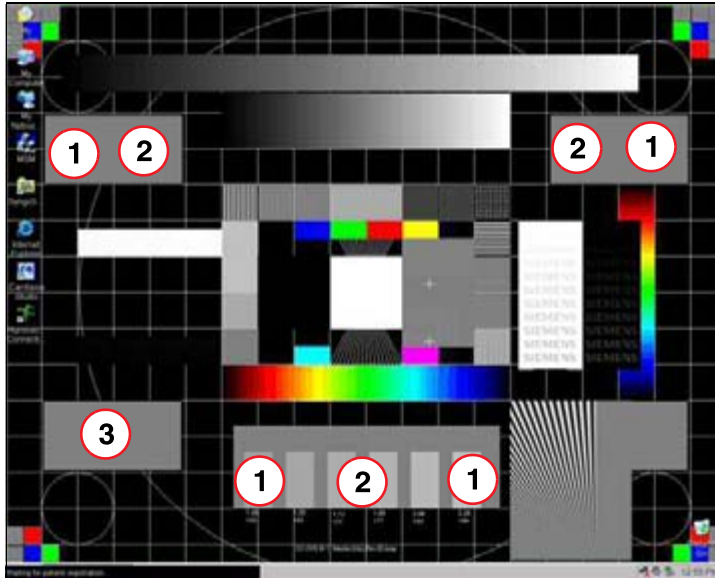

Fig. 60: Example 1: Misadjustment of frequency
- No flickering or horizontal interference lines should be seen (Fig. 60 / p. 80) and (Fig. 61 / p. 80).